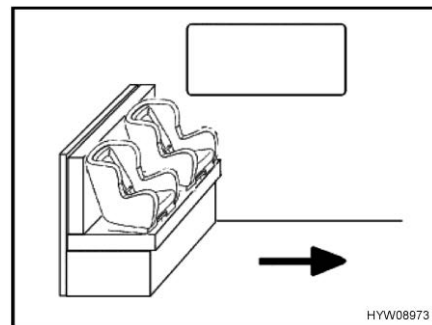
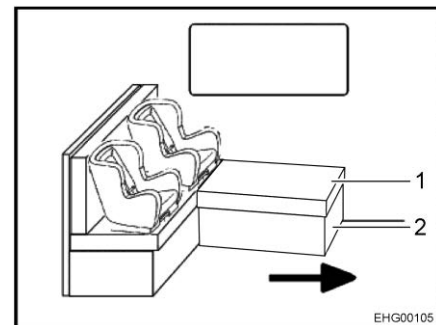

Fig. 26 Child seats on bench
Fig. 27 Child seats on L-shaped bench
The arrow in Fig. 26 and Fig. 27 shows the direction of travel.
- Remove the cushion (Fig. 27,1) if necessary.
- Fold the chest frame (Fig. 27,2) if necessary.